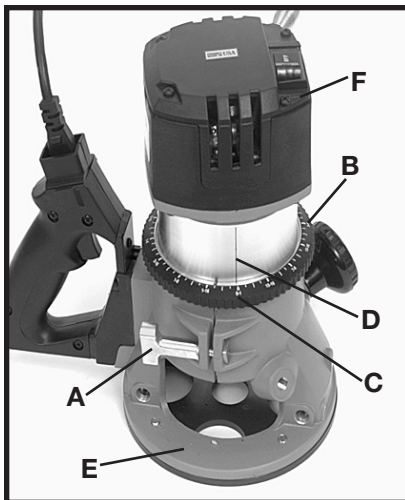

Fig. 5
2. Loosen clamp screw (A) Fig. 5.
3. While holding base (E), turn motor unit (F) Fig. 5 COUNTERCLOCKWISE until the tip of the bit is above bottom surface of base.
5. Turn motor unit (F) Fig. 5 CLOCKWISE until bit touches the wood surface.
6. Tighten clamp screw (A) Fig. 5.
7. Rotate depth adjusting ring (B) Fig. 5 until the zero-line (C) is opposite the index line (D) on the housing.
8. Loosen clamp screw (A) Fig. 5.
9. Tip the router so bit is clear of the wood surface. Turn motor unit (F) Fig. 5, CLOCKWISE until the index line (D) on the motor housing reaches the desired depth indicated on the ring.
10. Tighten clamp screw (A) Fig. 5 firmly.